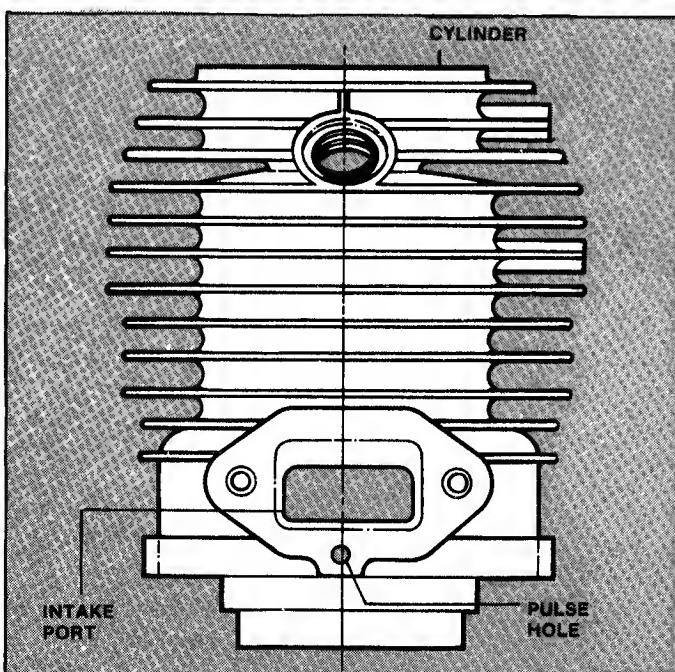

FIGURE 2.12
- C.** The cylinders carburetor mounting surface (intake) is provided with an air hole (pulse hole) which transmits the pressure variation in the crankcase to the diaphragm pump in the carburetor. This pulse hole is used **ONLY** for engines with a diaphragm valve type carburetor(D Type). It is **NOT** to be used with a float valve type carburetor. See Figure 2.12.